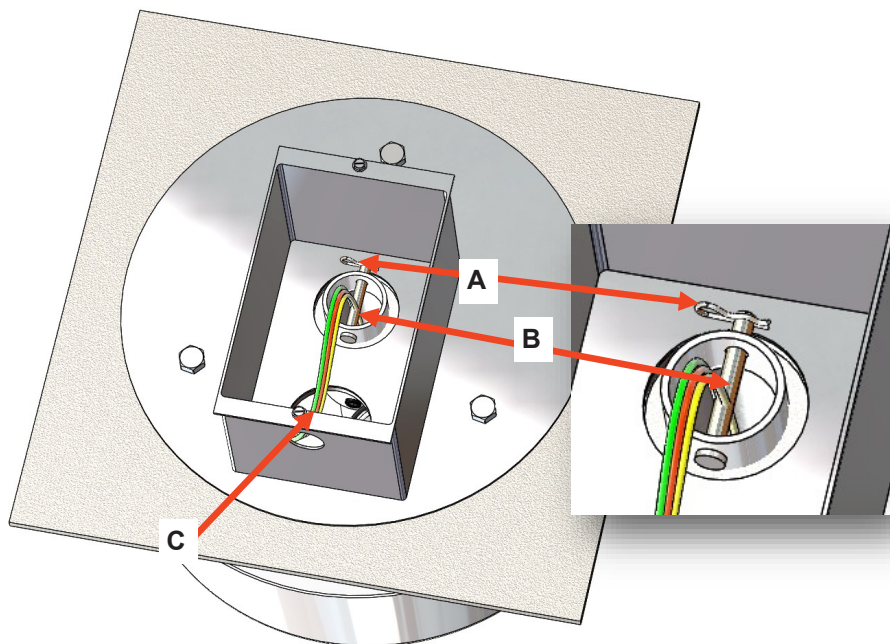

Figure 33B: Ceiling casting to down tube assembly.
Approximately 1 inch of the down tube should project above the ceiling plate and a hole in the down tube will be accessible. Put the clevis pin (B) into the hole. Secure the clevis pin with the cotter pin (A), refer to Figure 33B.
Feed the wires coming up out of the down tube back down through the hole in the ceiling casting (C). The wires from the wall switch should also go through this hole, refer to Figure 33B.